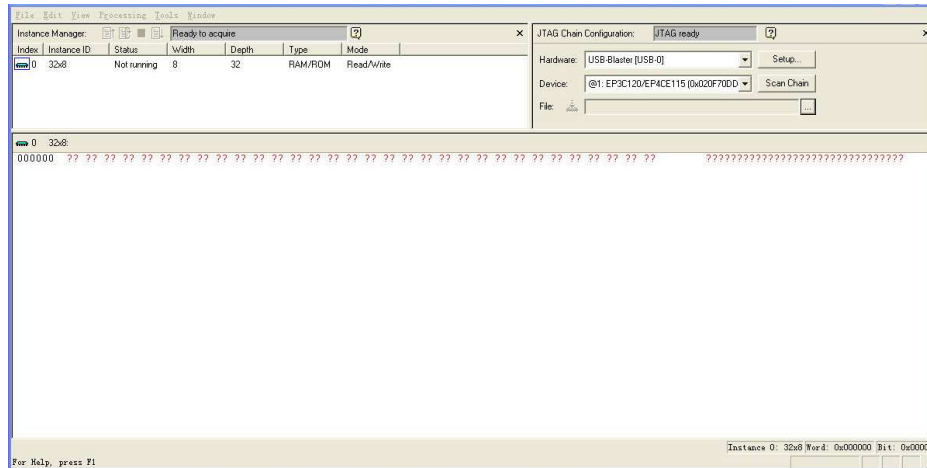
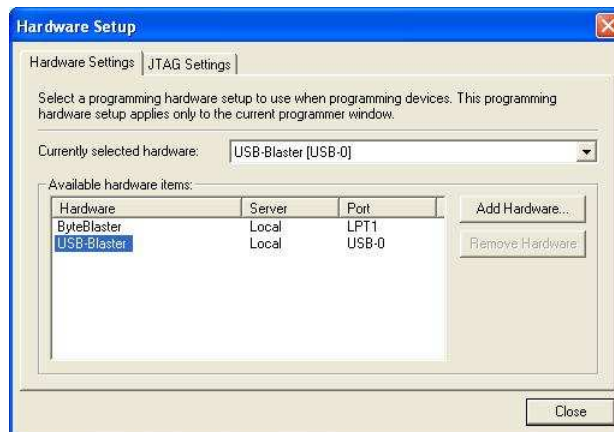

Figure 8. The In-System Memory Content Editor window.
Figure 9. The Hardware Setup window.
5. Select Tools > In-System Memory Content Editor, which opens the window in Figure 8. To specify the connection to your DE2-115 board click on the Setup button on the right side of the screen. In the window in Figure 9 select the USB-Blaster hardware, and then close the Hardware Setup dialog.